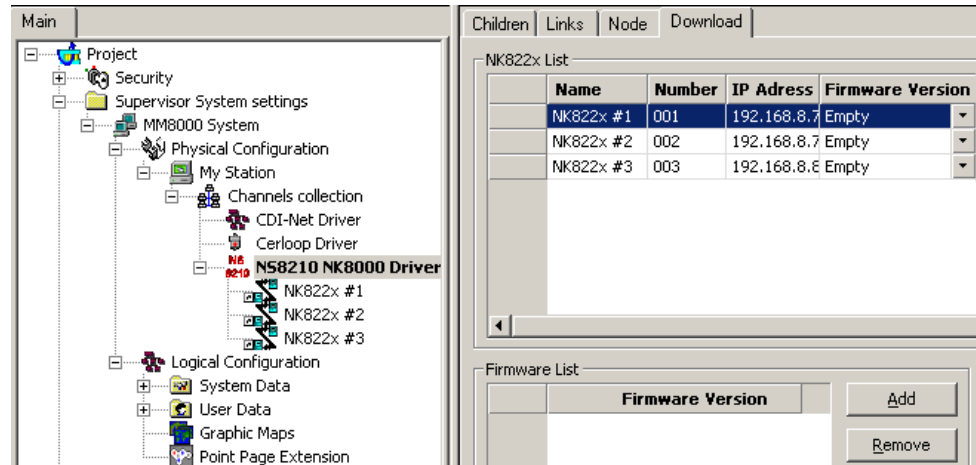

Fig. 10 Download tab
4. Select the **NS8210 driver** node and then the **Download** tab (Fig. 10).
- Select ... → **Supervision System Settings** → **MM8000 System** → **Physical configuration** → **Station (or FEP)** → **Channel collection** → **NK8210 driver** (see Fig. 10 above)